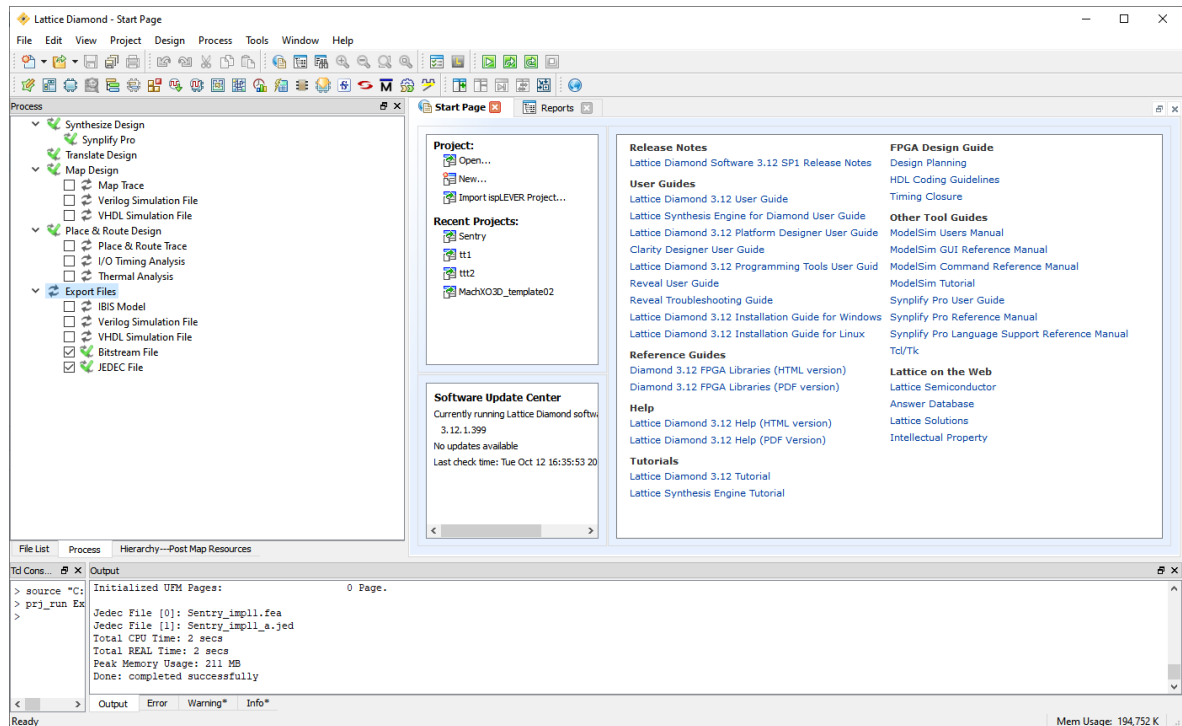

Figure 2.118. Generate Programming Files
- b. Switch to **Process** view of the Diamond project (Figure 2.118). Make sure at least one programming file (bitstream File or JEDEC file) is selected in the **Export Files** section. Available programming files can be different upon specific device included.